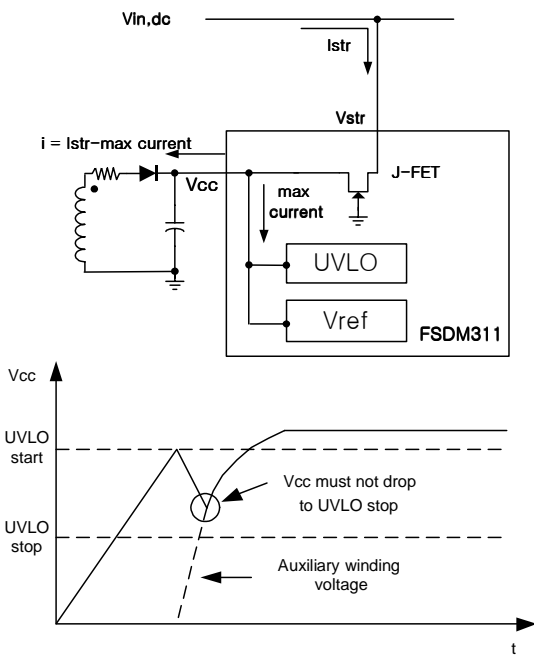

Figure 5. Charging the Vcc capacitor through Vstr
**4.1 Over Load Protection (OLP) :** Overload is a load current that exceeds a pre-set level due to an abnormal situation. If this occurs, the protection circuit should be triggered to protect the SMPS. It is possible that a short term load transient can occur under normal operation. If this occurs the system should not shut down. In order to avoid false shut-downs, the over load protection circuit is designed to trigger after a delay. Therefore the device can discriminate between transient overloads and true fault conditions. The device is pulse-by-pulse current limited and therefore, for a given input voltage, the maximum input power is limited. If the load tries to draw more than this, the output voltage will drop below its set value. This reduces the opto-coupler LED current which in turn will reduce the photo-transistor current. Therefore, the 400uA current source will charge the feedback pin capacitor, Cfb, and the feedback voltage, Vfb, will increase. The input to the feedback comparator is clamped at around 3V. Therefore, once Vfb reaches 3V, the device is switching at maximum power. At this point the 400uA current source is blocked and the 5uA source continues to charge Cfb. Once Vfb reaches 4.5V, switching stops. Therefore the shutdown delay time is set by the time required to charge Cfb from 3V to 4.5V with 5uA as shown in Fig. 5.